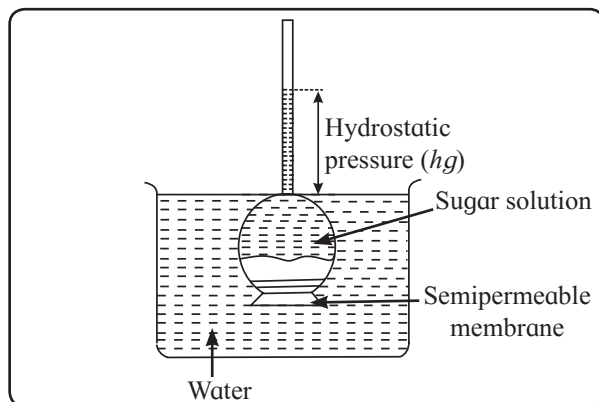

Fig. 2.9 : Osmosis and osmotic pressure
2.10.2 Osmotic pressure : Osmosis can be demonstrated with experimental set up shown in Fig. 2.9